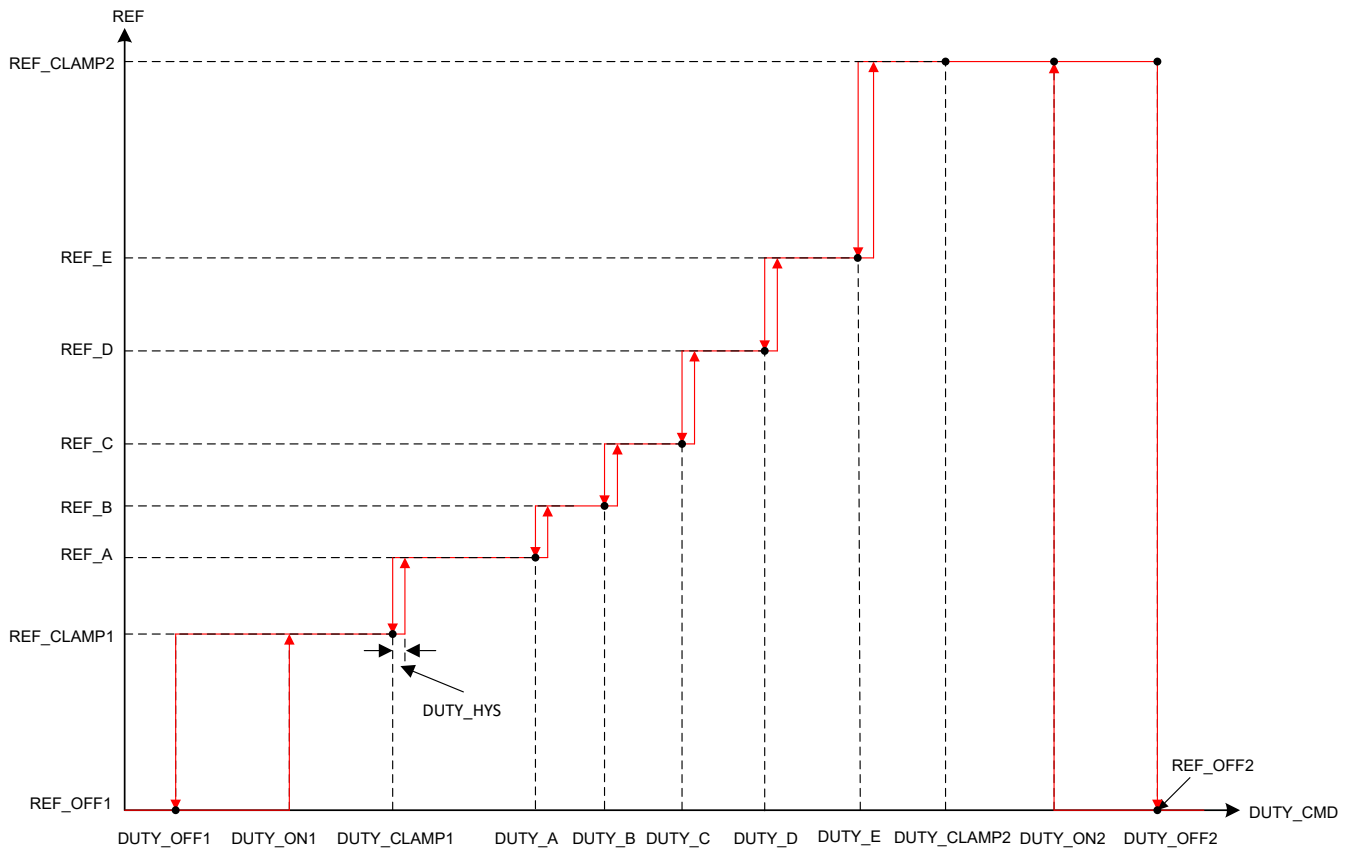

Figure 7-11. Staircase Control Profiles
- DUTY_OFF1 and DUTY_ON1 configures a hysteresis around reference control input REF_CLAMP1 and REF_OFF1 as shown in Figure 7-11.
- DUTY_A configures the duty command for reference REF_A. There is a step change in reference from REF_CLAMP1 to REF_A at DUTY_CLAMP1. DUTY_A to DUTY_E has to be in the same order as shown in Figure 7-11.
- DUTY_OFF2 and DUTY_ON2 configures a hysteresis around reference control input REF_CLAMP2 and REF_OFF2 as shown in Figure 7-11.